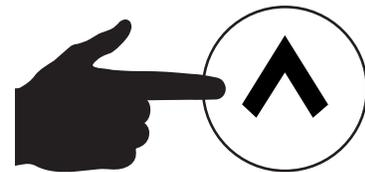

Figure 161. Page Up Button
9. Press the **Page Up** button (Figure 161) to scroll to **screen 2 of 7** on the touch display.